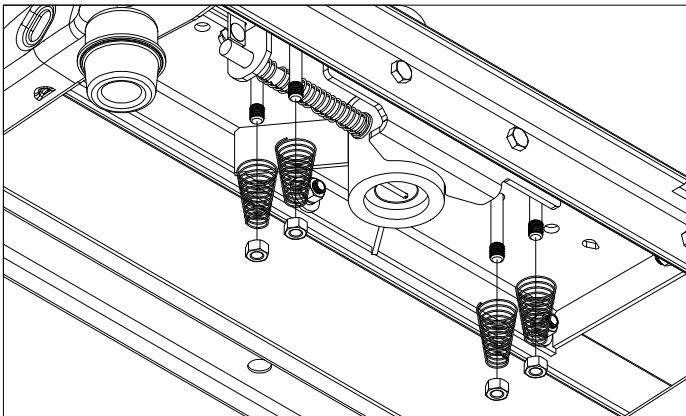

Figure E2: Cut away view from under the bed.
3. **Add springs.** Place a conical spring over each leg of the U-bolts and secure with a 1/2" lock nut, see Figure E2. Tighten the lock nut until the nut is flush with the end of the U-bolt.